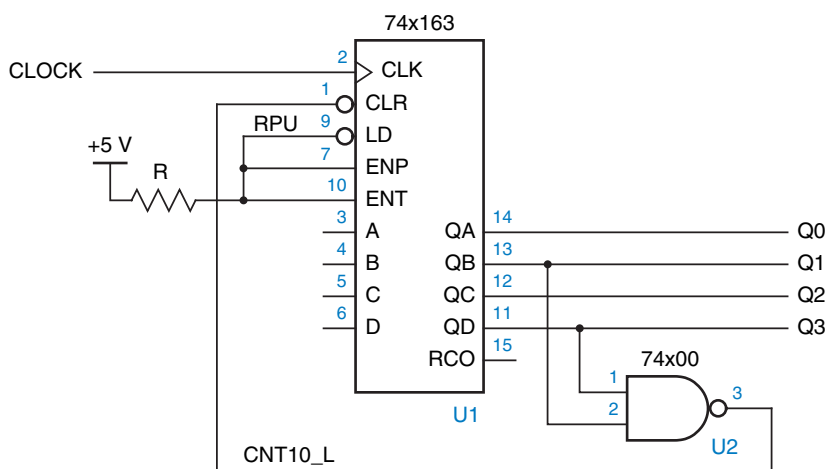

Figure Cntr-2
A different approach for modulo-11 counting with the '163 is shown in Figure Cntr-2. This circuit uses a NAND gate to detect state 10 and force the next state to 0. Notice that only a 2-input gate is used to detect state 10 (binary 1010). Although a 4-input gate would normally be used to detect the condition $CNT10 = Q3 \cdot Q2' \cdot Q1 \cdot Q0'$, the 2-input gate takes advantage of the fact that no other state in the normal counting sequence of 0–10 has $Q3 = 1$ and $Q1 = 1$. In general, to detect state N in a binary counter that counts from 0 to N , we need to AND only the state bits that are 1 in the binary encoding of N .
- Cntr.1** What is the behavior of the counter circuit of Figure Cntr-2 if it is built using a 74x161 instead of a 74x163?
- Cntr.2** What is the behavior of the counter circuit of Figure Cntr-2 if the bottom input of U2 is connected to Q2 instead of Q1?